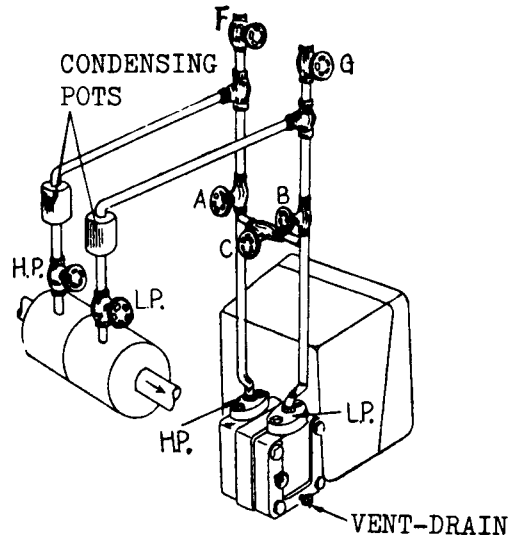

Figure 8. Piping connections for wet gas flow service, using piping manifold with water seal.
Caution: For wet gas service, orifice taps should be on the top of the flow line. If possible install the meter body above the orifice taps so condensation will drain back into the flow line. If you cannot, put condensing pots (about 200 mm long by 75 mm diameter) above the orifice taps as shown in Figure 8.
- (2) Using Piping Manifold (Figure 8)